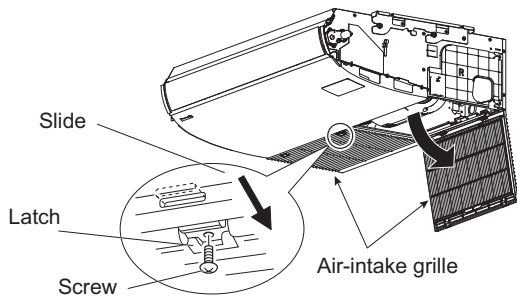

Fig. 8-36
- (1) Remove the screw, and slide the latch to open the air-intake grille. (Fig. 8-36)